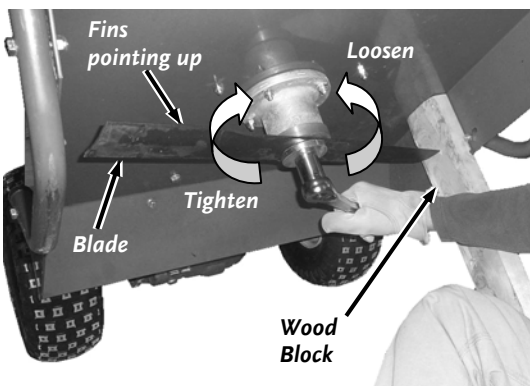

Figure 15
1. Brace the Blade with a block of wood between the Blade and the Mower Deck (**Figure 15**).